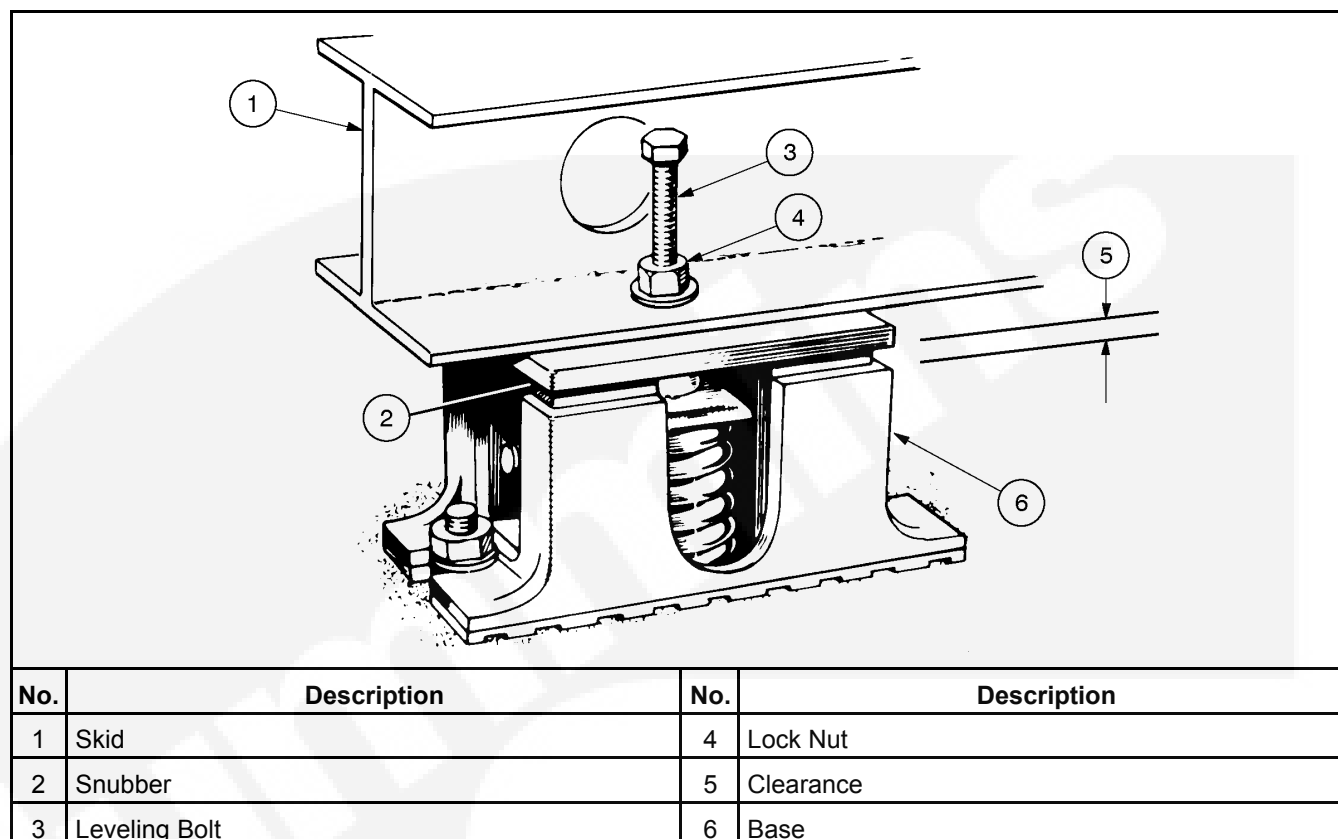

FIGURE 8. VIBRATION ISOLATOR INSTALLATION
1. Place the vibration isolators (see Figure 8 on page 31) on the generator set support structure. The isolators should be shimmed or grouted to make sure that all of the isolator bases are within 0.25 inch (6 mm) elevation of each other. The surface that the isolator bases rest on must also be flat and level.